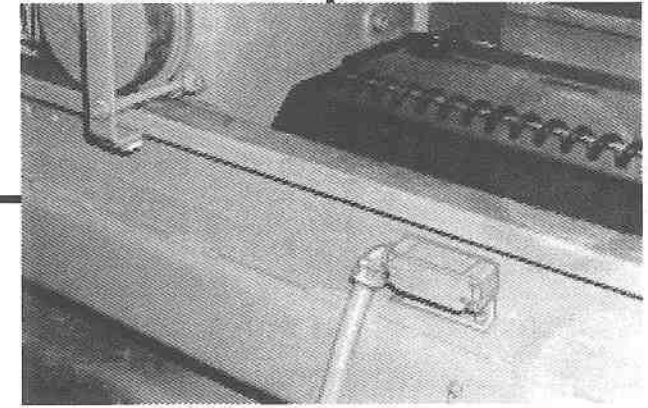

Fig. 2
**Fig. 2** Magnetic switch on car track detects an improper position of car. Switch is interlocked to prevent Downender tilt control operation until car is properly positioned.